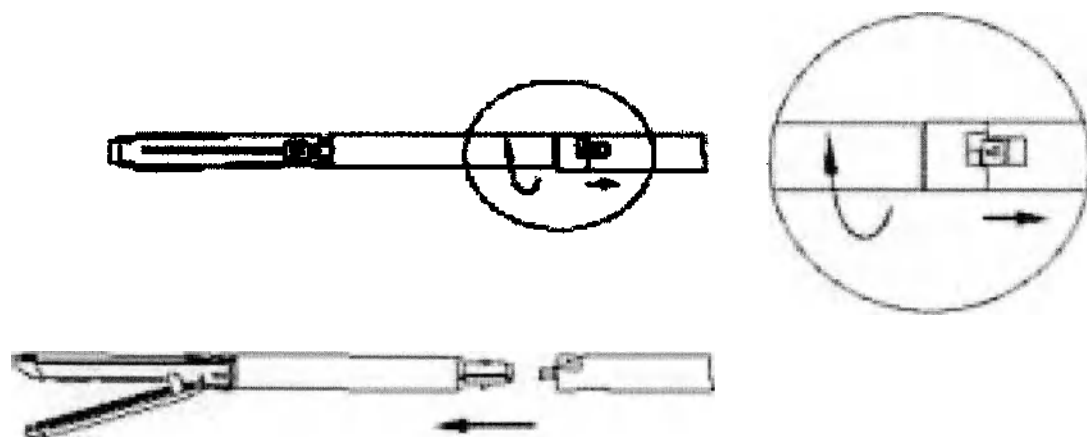

Figure 5.
2. Pull the UNLOAD/UNLOCK button (located on the underside of the stapler shaft) back toward the stapler , rotate the cassette counterclockwise 45°, and remove the cassette from the stapler shaft (Figure 5)